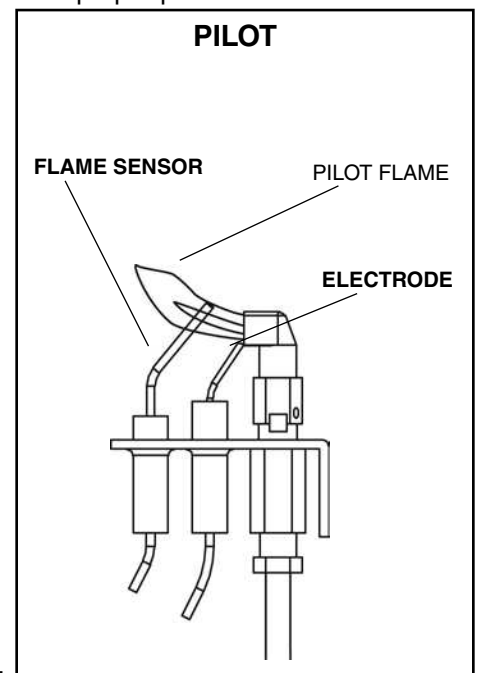

Figure 25: Pilot light.
- Check the pilot system for proper flame size and operation. Clean pilot free of soot, dust or any other deposits (Figure 25).